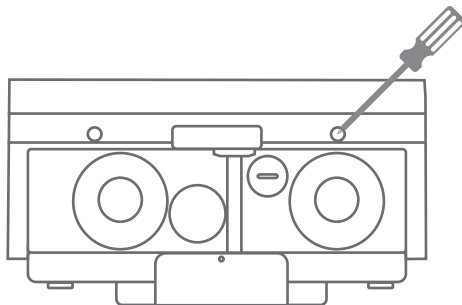

Fig. 5-10
1. Unscrew the two screws on the bottom of the front cover with a Phillips screwdriver. (See Fig. 5-10)